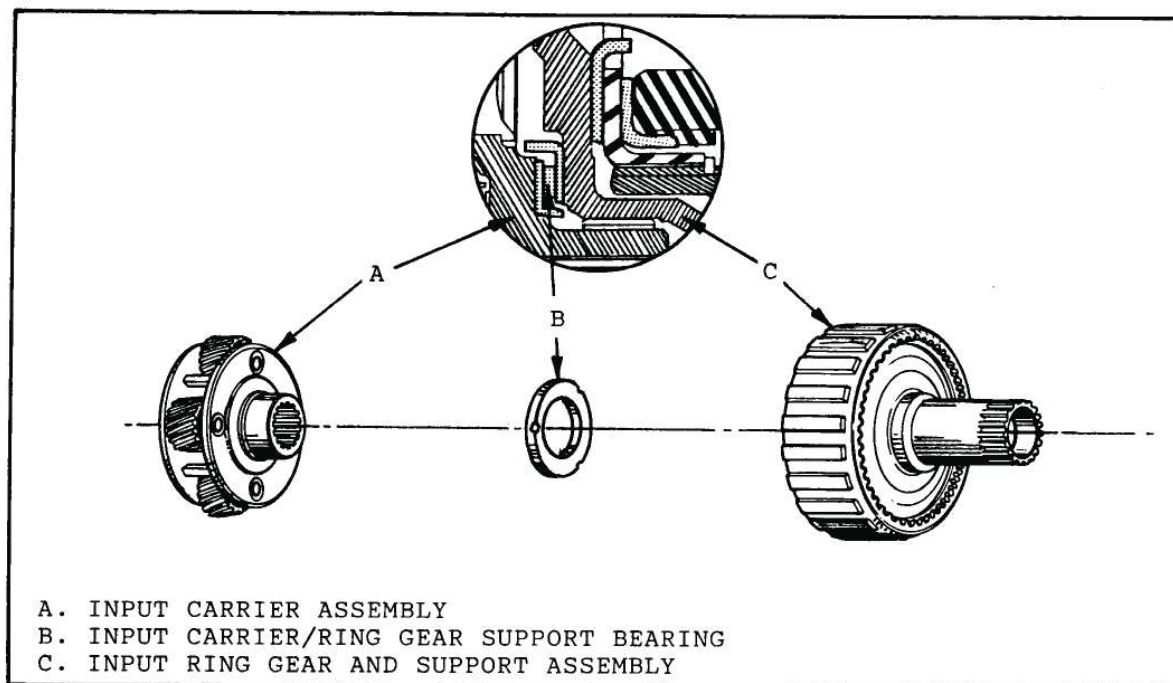

Figure 69
- 3. Install thrust bearing into input ring gear support. Outer race goes toward the reaction carrier as shown in Figure 69.